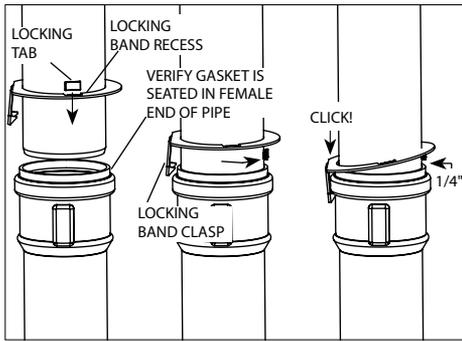
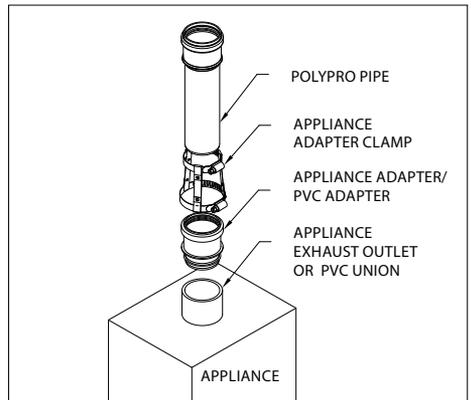
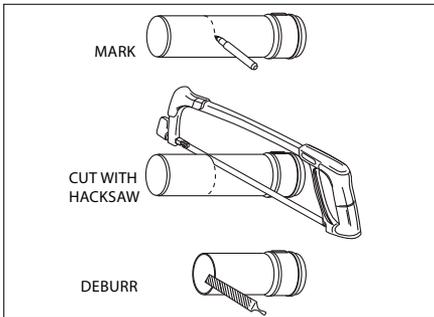

Figure 2
Figure 3
Figure 5
Verify the gasket is seated evenly inside the groove in the female end. For PP / Metal pipe with a locking tab, slide Locking Band on male pipe section **Fig.2**. Insert locking tab into locking band recess, rotate button away from Locking Band Clasp, insert pipe sections, push lock band clamp downward into socket, disengage socket / tab 1/4"-5/8" from socket **Fig.2**. **Screws are not allowed for joint connection. Never penetrate the wall of PolyPro vent pipe. (Exception- a SS screw may be used outside the building on exterior termination fittings to orient an elbow, etc).**
Approved M&G Duravent / Security Chimney 1738/636 metal vent fittings can be used with PolyPro. Follow the above (**Fig.2**) for PolyPro (female) to Metal Vent (Male) connections.
1. If the appliance has a PVC/CPVC female outlet use the Appliance Adapter/ PVC Adapter and Clamp. (**Fig.3**)
- Pipe lengths may be cut to length (**Fig.5**). Use an alternate clamp (**Fig.3-PPS-PAC / PPS-LBC**) for the connection if a locking tab (**Fig.2**) is removed.